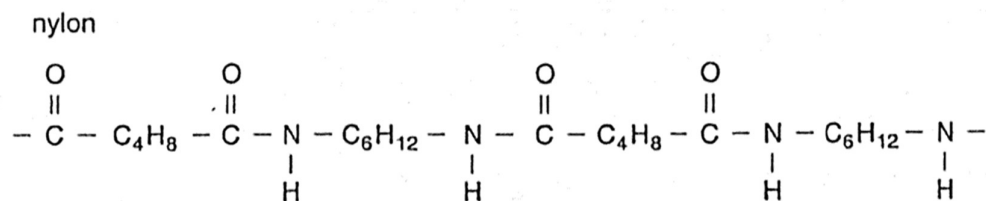
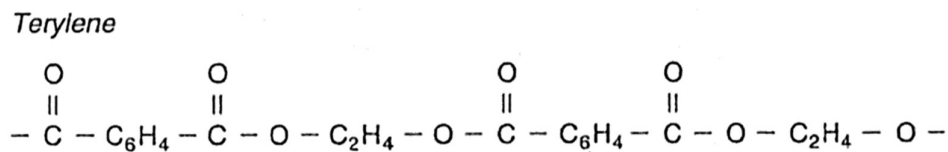

Fig. 11.1
Fig. 11.2
- 11 Nylon and *Terylene* are synthetic polymers. Fig. 11.1 and Fig. 11.2 show the structures of nylon and *Terylene* respectively.